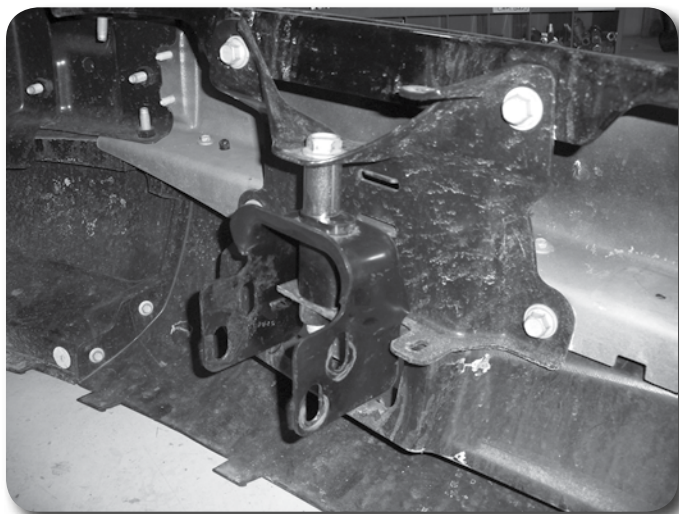

Figure 19
41. Locate the provided 1.5" tall steel bumper spacer sleeves. Position the sleeve on the top of the factory bumper bracket and install the bracket and sleeve into the original mount position on the bumper. Fasten the sleeve/bracket with the original bolt. Leave hardware loose. **Figure 19**